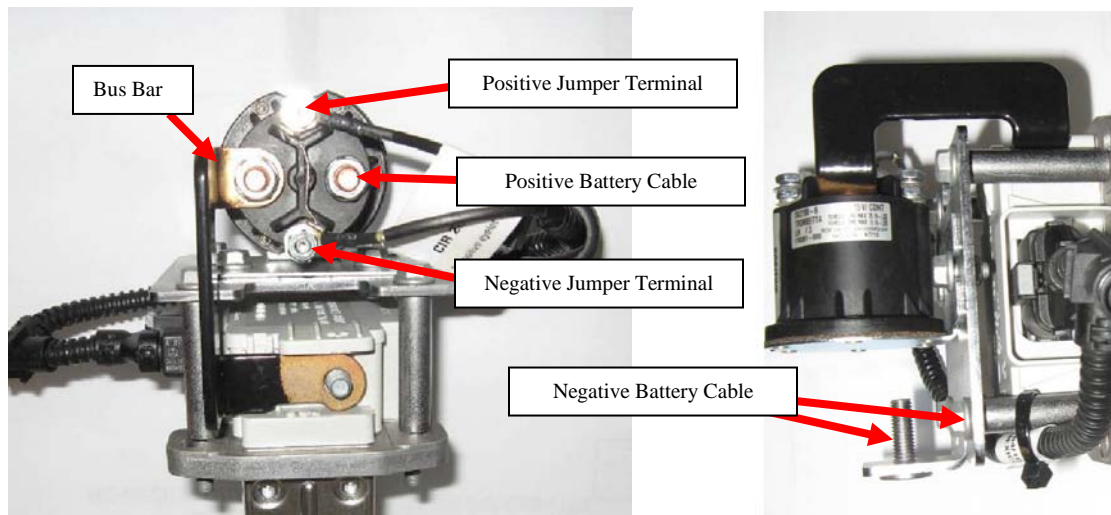

Figure 4 – Grid Heater Relay Wiring
9. Attach the relay signal wires from the electrical jumper harness to the relay terminals as shown in Figure 4. Torque fasteners to 2 N·m (15 lb·in.).
10. Connect the positive battery cable to the relay terminal as shown in Figure 4. Torque nut to 4 N·m (35 lb·in.).